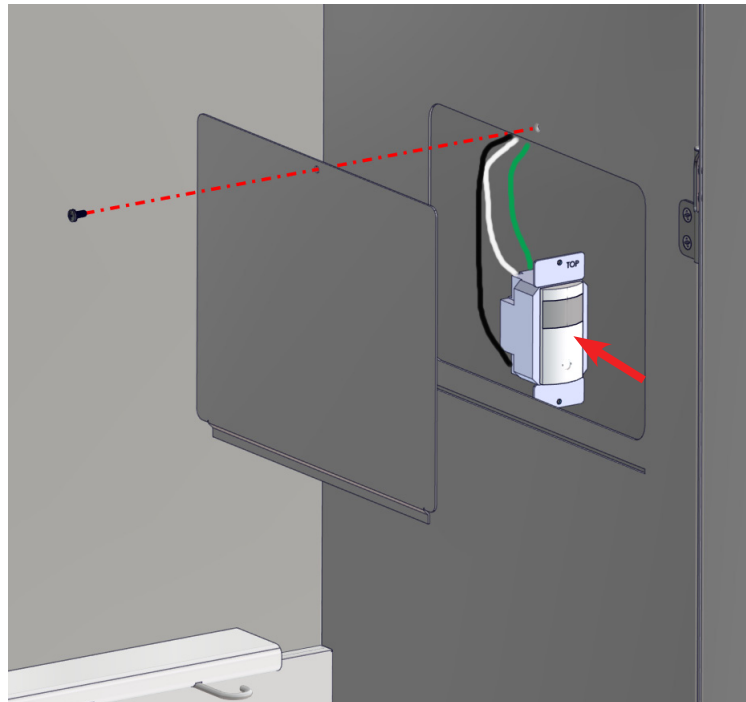

Fig. 6: Remove Access Panel and pull out Switch
2. Remove the bolt from the access plate from inside the cabinet and remove the access plate (Fig. 6).